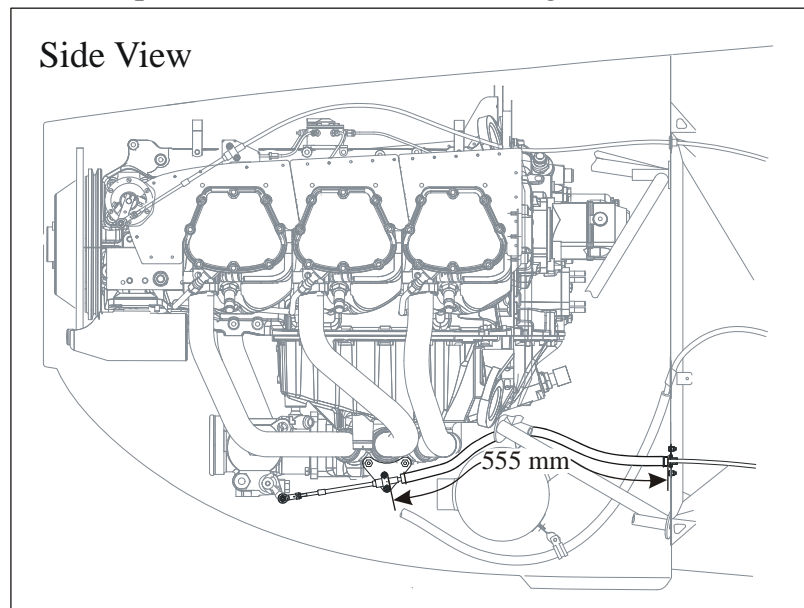

Figure 6 *Clamp Sheet to Clamp Block Distance*
- 4 Install the mixture vernier control cable according to the previously marked routing. Ensure distance between firewall and clamp block is 555 mm (refer to Figure 6).